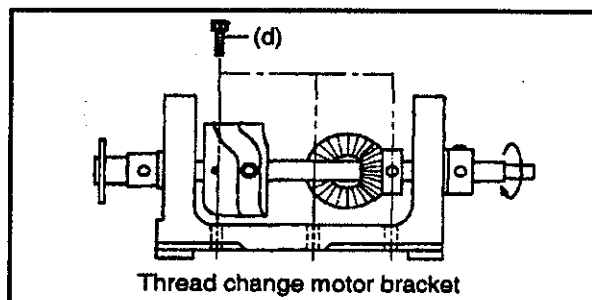

FIG.6
- (8) Remove three retaining screws (d) and then the thread change motor bracket (Fig.6).